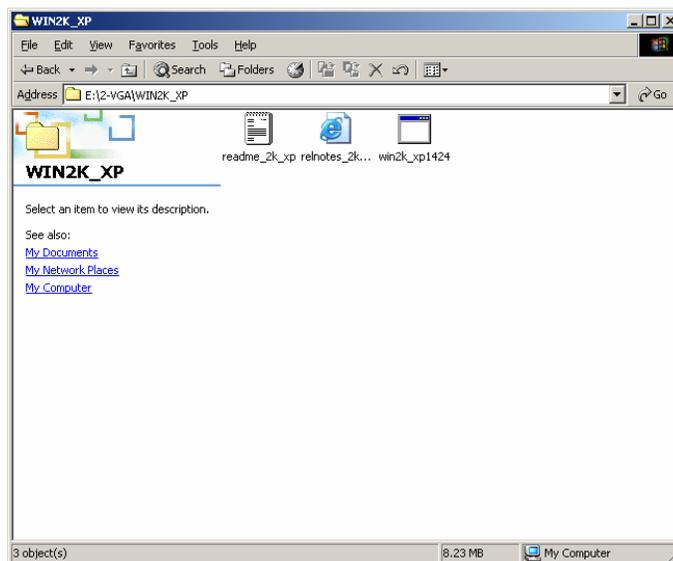

Figure 6-8: VGA Driver
Step 4: A new window appears (Figure 6-8).
Step 5: Click the installation program icon in Figure 6-8.